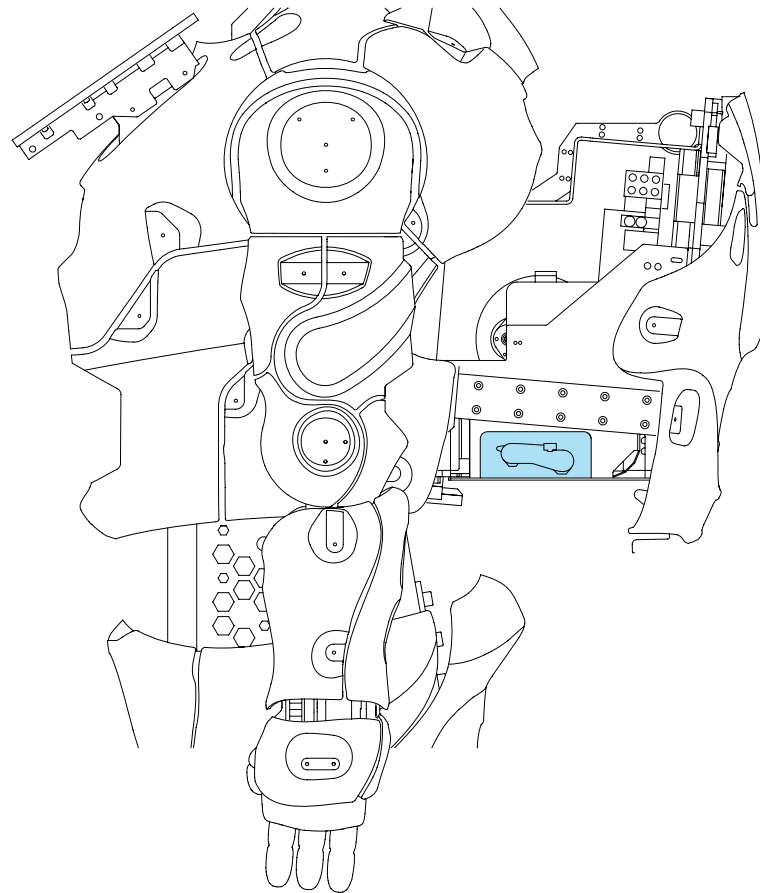

Fig. 8.2. Printer position in the service compartment of the robot (side view of the robot)
2. The printer is located on the left side relative to the rear cover, the printer position is indicated in Figure 8.2.